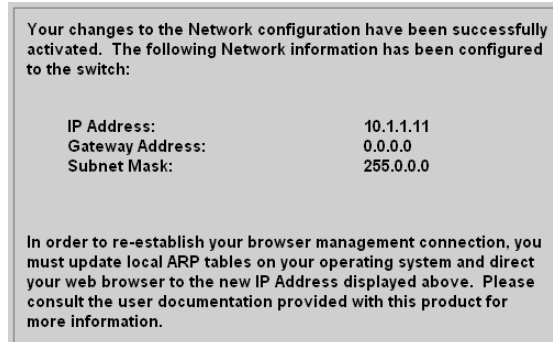

Figure 48: Network configuration changes activated
3. Click **Activate** to save the information. The following message box displays (Figure 48).